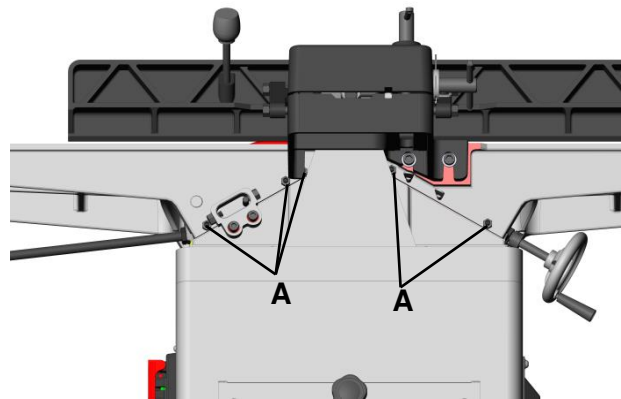

FIGURE 23
1. Lightly loosen the gib adjusting screws (A), Figure 23. By loosening the lock nuts first the set screws should be loose enough to move the table.